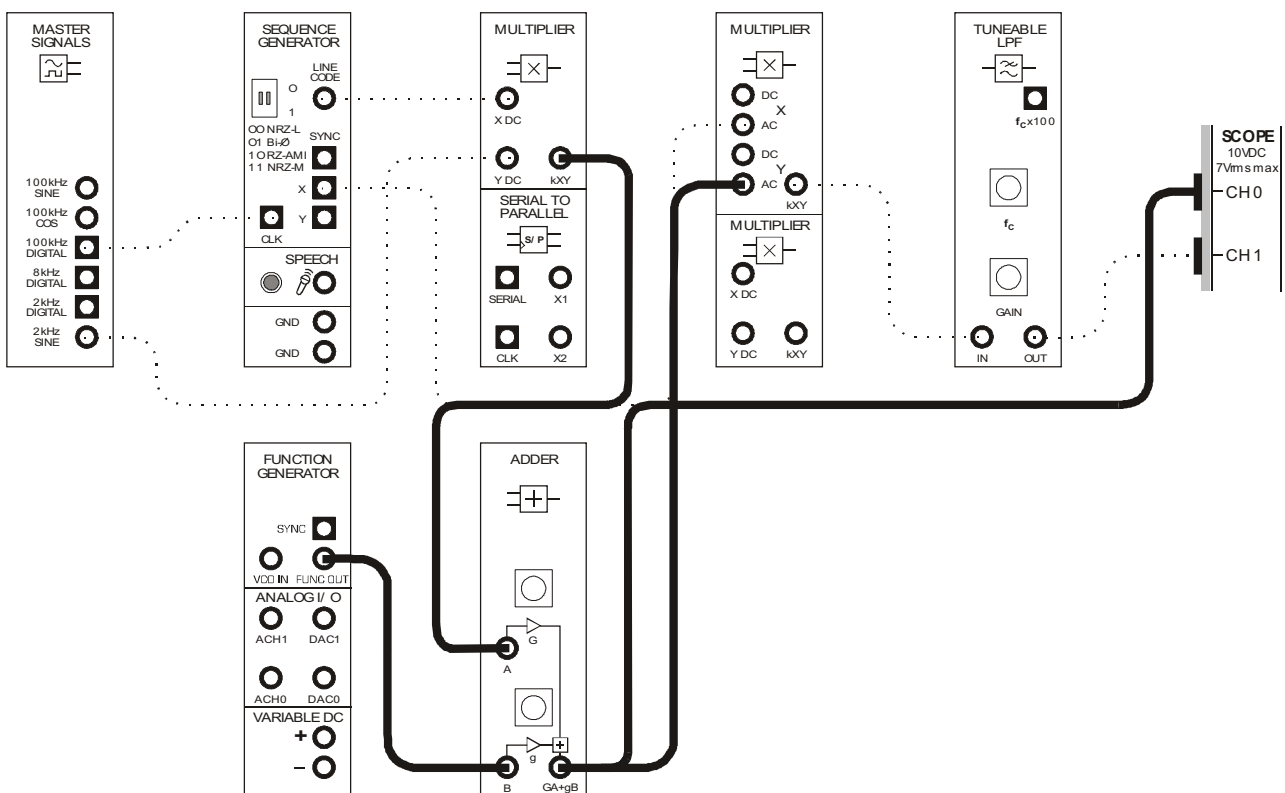
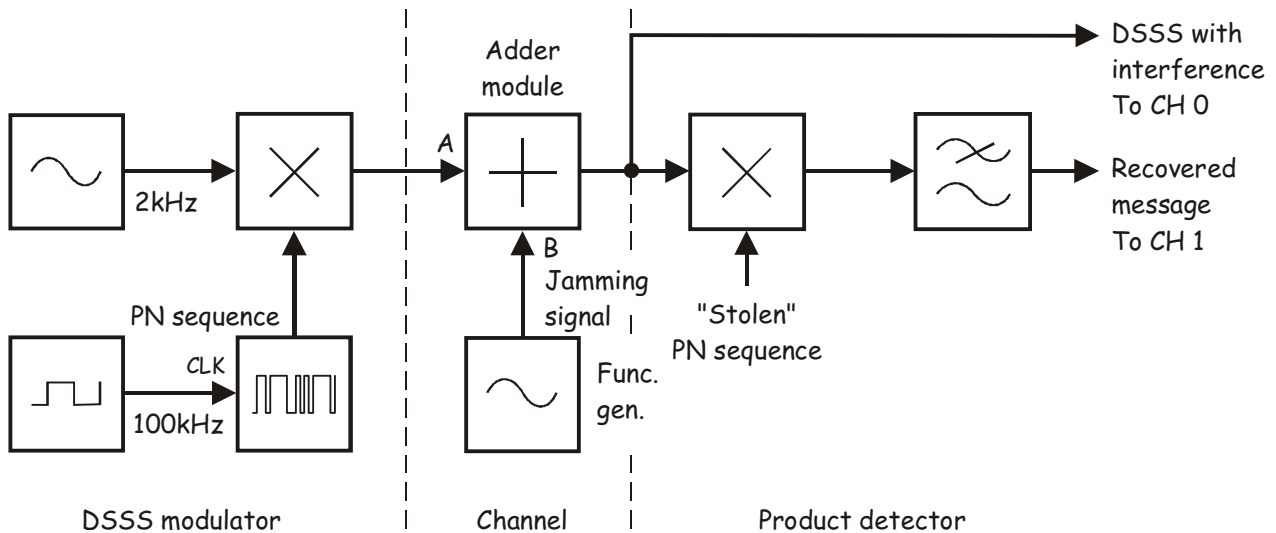

Figure 9
Figure 10
44. Modify the set-up as shown in Figure 9 below.
The set-up in Figure 9 can be represented by the block diagram in Figure 10 below. The function generator is used to generate a variable frequency jamming signal that is added to the DSSS signal in the channel using the Adder module.